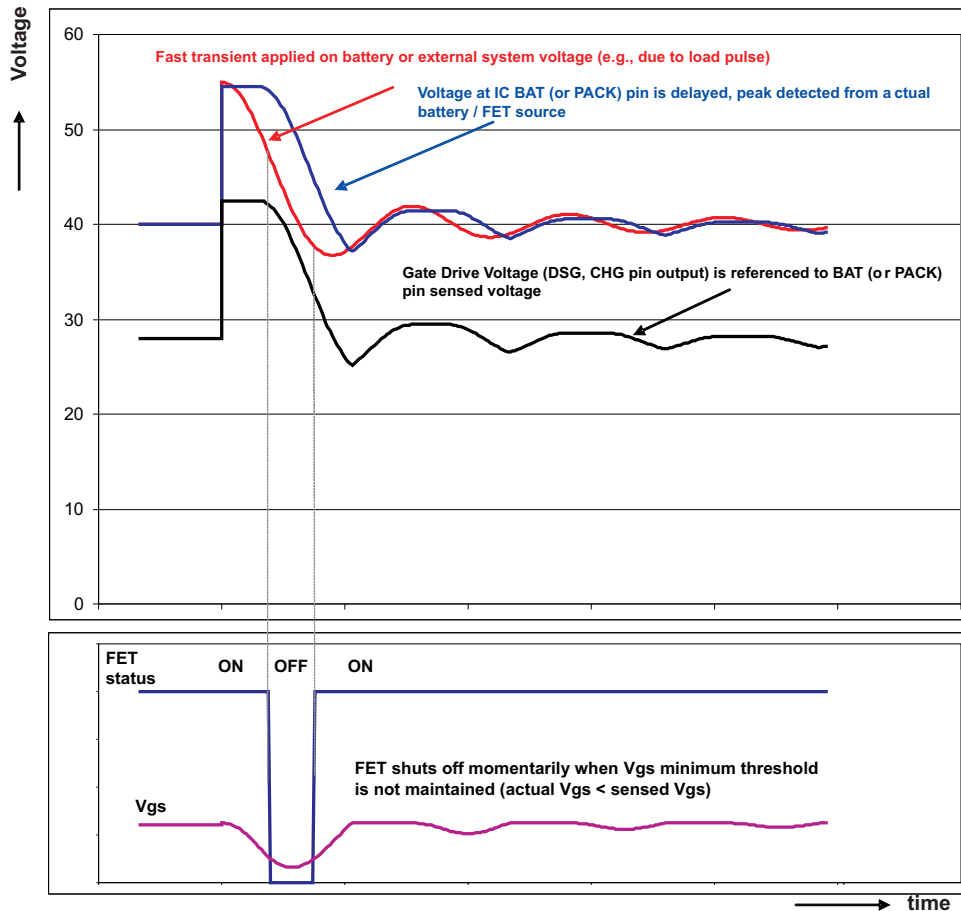

Figure 1. Transient Effect of FET Operation
- The circuit used for maintaining the supply voltage to the IC may need to be modified in a system that has significant voltage transients to prevent momentary shutoff of the power FETs during these conditions. See Figure 1 for further explanation.